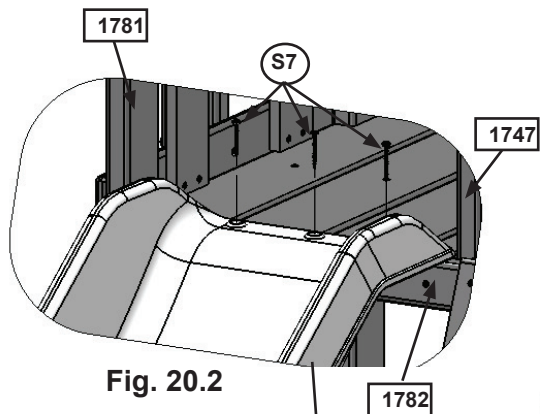

Fig. 20.2
- B:** Pre-drill 1/8" pilot holes and attach slide to fort through (1782) SL Spacer using 3 (S7) #12 x 2" Pan Screw. (fig. 20.2 & 20.3)